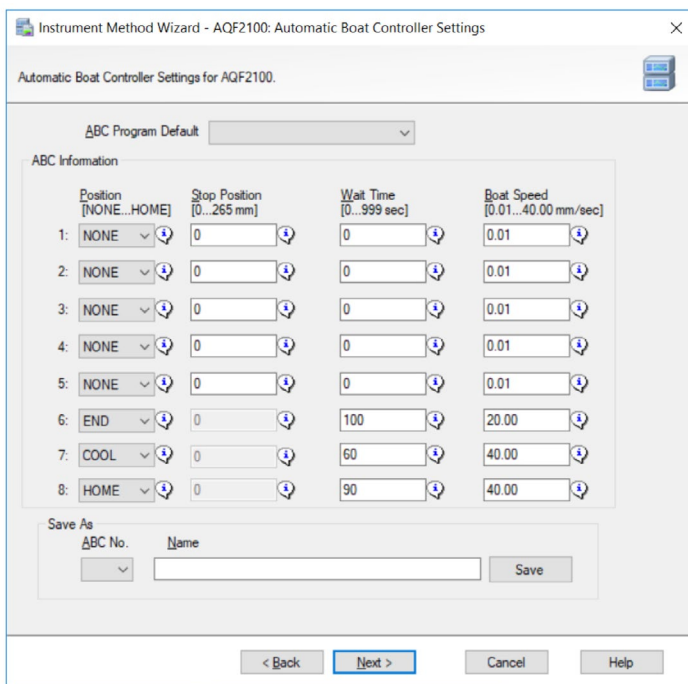

Figure 21. Creating the Instrument Method: Enter in Automatic Boat Controller settings from the Conditions section
13. Enter Automatic Boat Controller settings from the Conditions section (Figure 21).